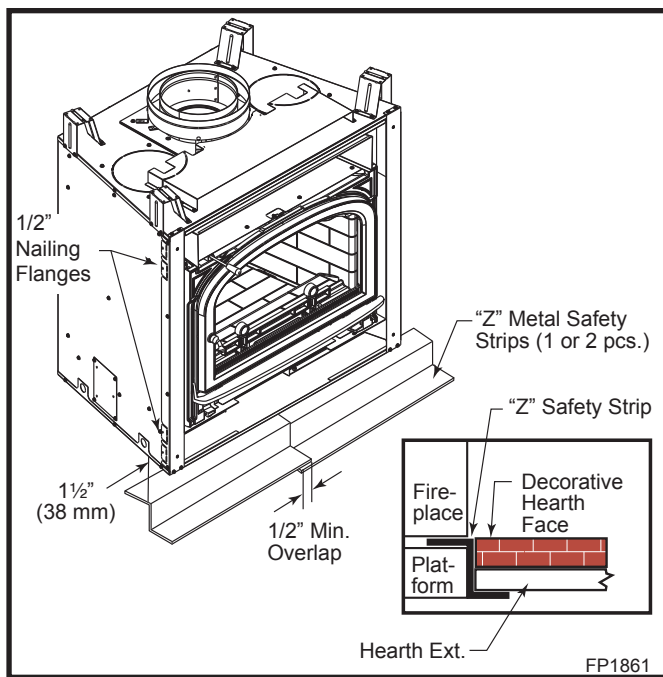

Fig. 13 Safety strip installation.
at least 1/2" to provide a positive joint. The safety strips must also extend at least 1 1/2" (38 mm) beyond the sides of the fireplace. (Fig. 13)
1. This unit is shipped with four (4) nailing flanges pre-mounted on either side of the fireplace to accommodate two (2) different drywall thicknesses. The 1/2" drywall flanges are shown in Figure 13 while the top and bottom flanges are for 5/8" drywall.